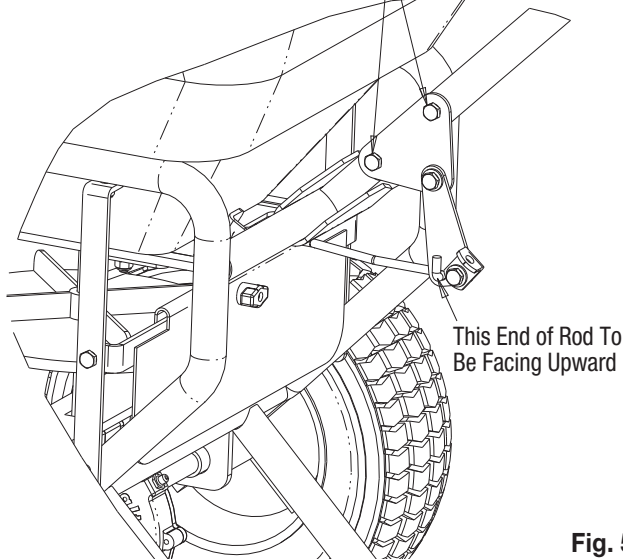
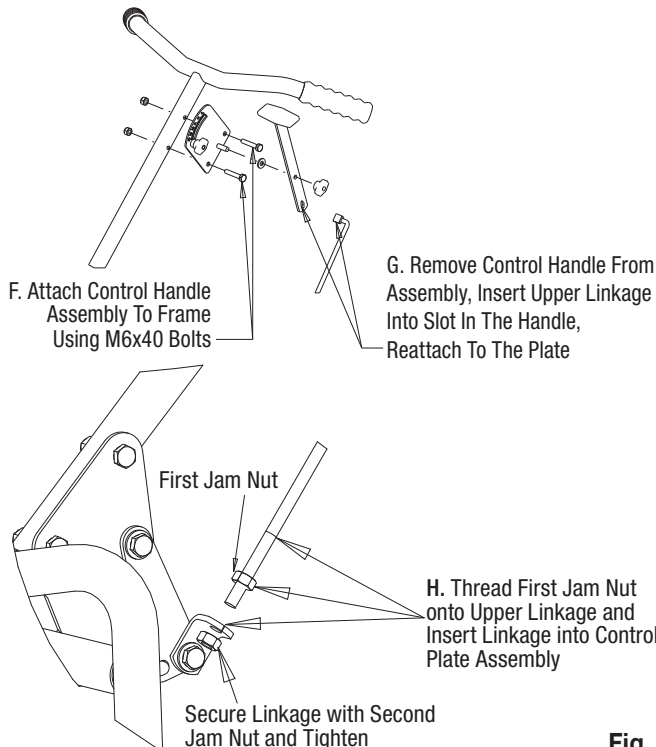

Fig. 5
Fig. 6
- E.** Attach the Linkage Plate Assembly and Handle to the Frame using two M6x40 bolts as shown (see Fig. 5 on next page). Figure 6 shows the lower linkage assembled (for reference).
Attach Control Handle Assembly, Upper Linkage, & Rear Deflector – Figure 6 & 7